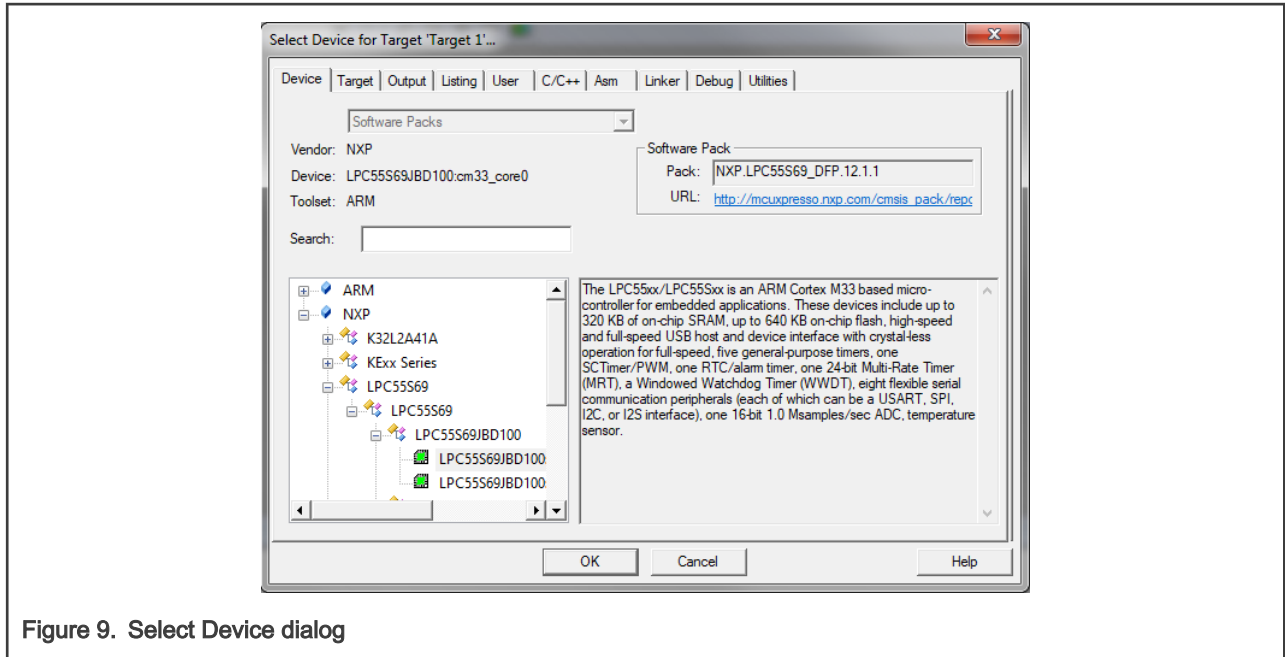

Figure 9. Select Device dialog
7. Click the LPC55s69 node, and then click OK. See Figure 9.